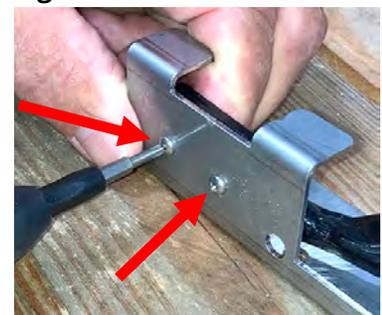

Figure 19
21. Remove the two (2) screws attaching the existing pan switch to the bracket using a small Phillips head screwdriver (see Figure 19).